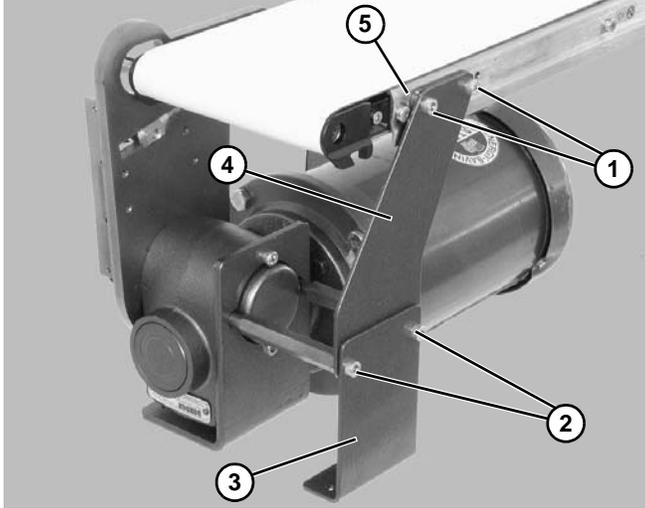

Figure 33
1. Remove screws (Figure 33, item 1 and 2) and remove support bracket (Figure 33, item 3), support plate (Figure 33, item 4) and spacer (Figure 33, item 5).